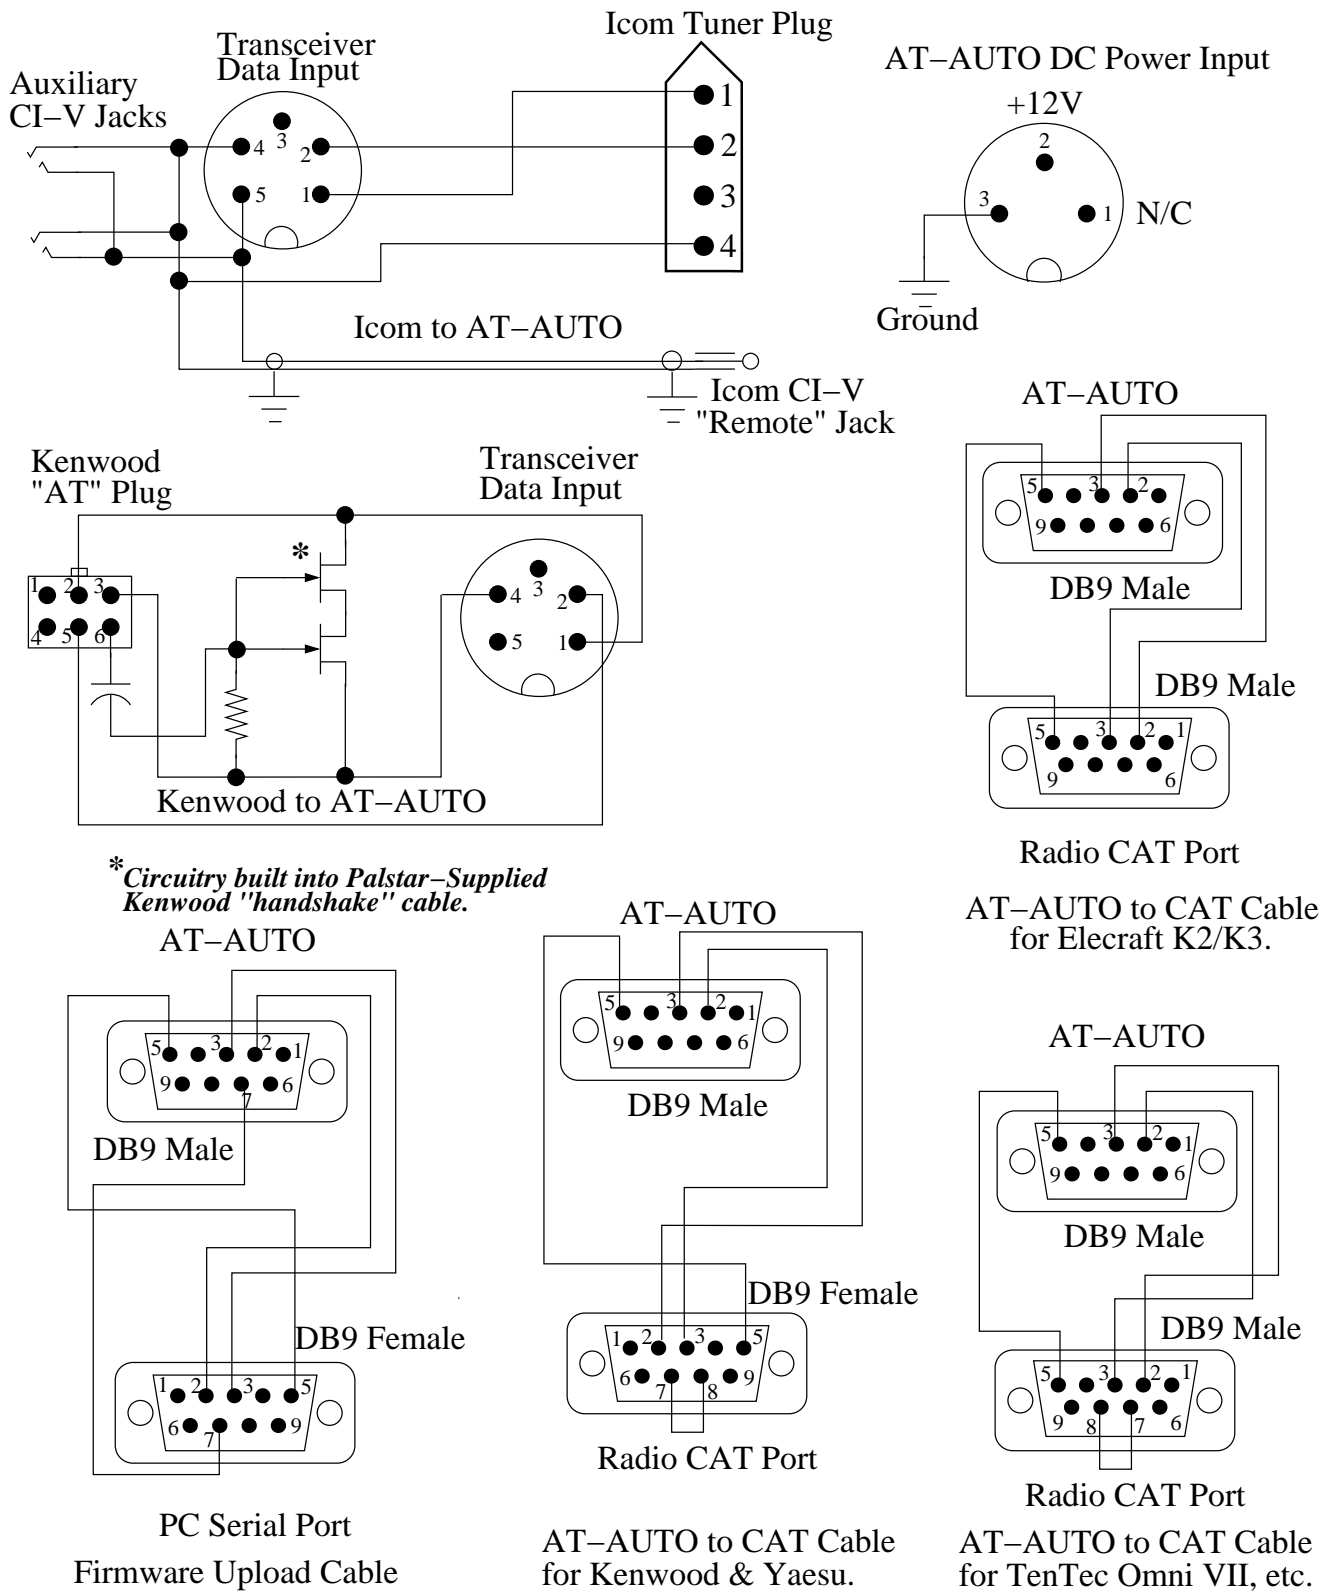

Figure 10.1: Interface Cable Diagrams
6. Connect your AT-AUTO to your PC's RS-232 serial port with the Palstar-supplied “Firmware Upload Cable” (See Figure 10.1 on page 70).
The serial cable used for the firmware update must include the “RTS” (Request to Send) handshake line. The Palstar-supplied serial cable is intended for this purpose. For further details, see Figure 10.1
The AT-AUTO is capable of controlling the low-power, constant carrier generation capability built into some Icom and Kenwood radios. This “Handshake” mode of operation requires connection of the AT-AUTO with either the Icom’s “tuner” interface or the Kenwood’s “AT” interface. Do NOT attempt AT-AUTO - radio interfacing via the “Data/Handshake” connector with non-Icom or non-Kenwood radios. Kenwood radios require additional external circuitry (built into the Palstar-supplied interface cable) in order for the handshake feature to operate. Figure 10.1 on page 70 illustrates the handshaking cables used for Icom and Kenwood radios.
Palstar supplies an interface cable that is suitable for use with either Icom transceivers, most Kenwood, some Yaesu, several TenTec and Elecraft transceivers. The information supplied in this section is provided to enable the AT-AUTO owner to construct interface cables suitable for his particular model of radio. Rear panel connector pinouts are provided in Table 10.1 on page 69, and Figure 10.1 (page 70) provides illustrations of the serial data interfacing cabling.